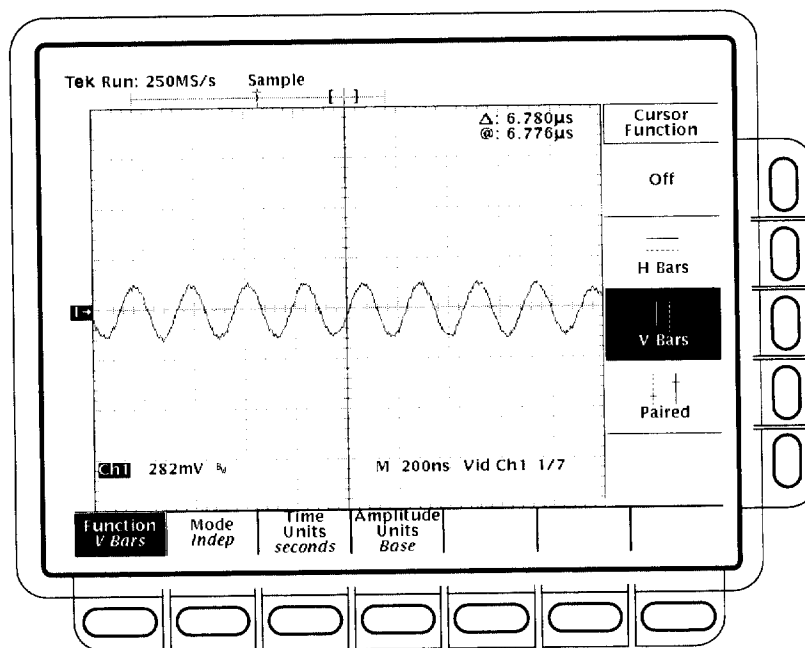

Figure 1-38: Line count accuracy correct result waveform
- Verify that the cursor is positioned on a positive slope of the burst signal. See Figure 1-38.